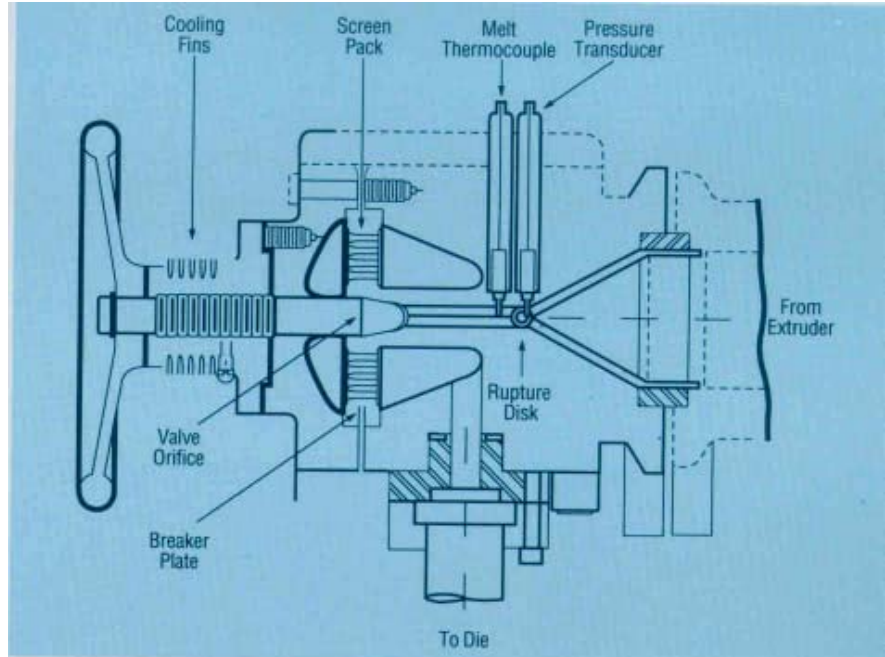

Figure 29. Pressure Control Valve
1. The internal pressure valve (**Figure 29**) is a movable stem that can be adjusted forward or backward to increase or decrease pressure. Moving the valve stem varies the size of the orifice opening between the end of the stem and the polymer flow pipe.